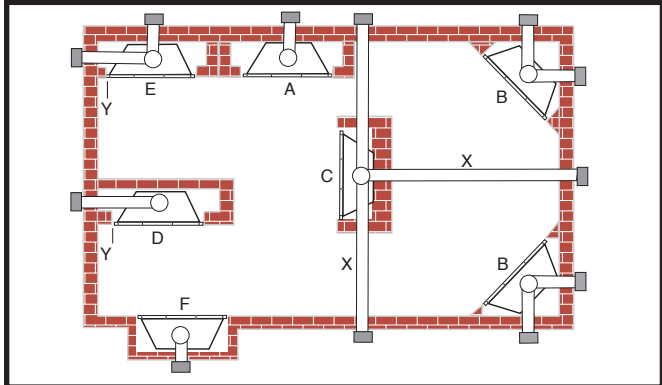

Fig. 2 Locate gas fireplace.
Note (Fig. 2):
** Island (C) and Room Divider (D) installation is possible as long as the horizontal portion of the vent system (X) does not exceed 20' (6m). See details in manual Venting Section.
* When you install your fireplace in (D) Room divider or (E) Flat on wall corner positions (Y), a minimum of 6" (152mm) clearance must be maintained from the perpendicular wall and the front side edge of the fireplace. See (Y) in Fig. 2.